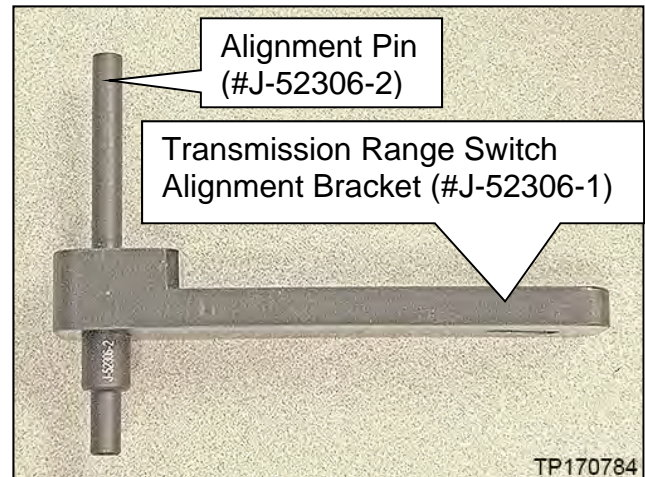

Figure 215
- a. Install the alignment pin (#J-52306-2) into the Transmission Range Switch Alignment Bracket (#J-52306-1), as shown in Figure 215.